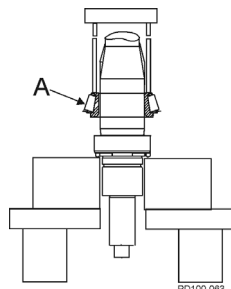

Figure 47 - Press Lower Cone onto Shaft
3. Lift the lower cone and roller assembly (Figure 47, item A) out of the bearing stack and place it on the shaft with the radius facing down. Press it onto the shaft until it is seated against the shaft shoulder. **Press only on the inner cone.**